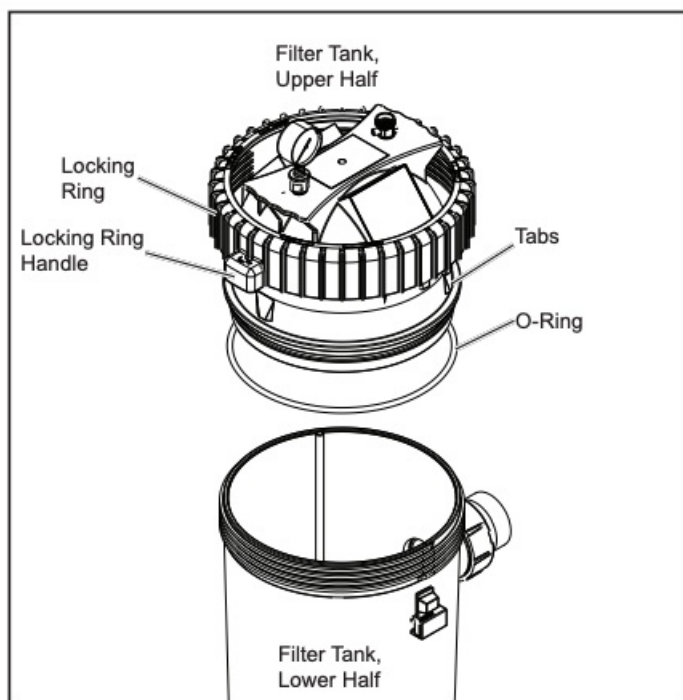

Figure 4. Locking Ring
1. Be certain the o-ring is in position in the upper tank half. Press the filter lid over the lower half until seated. Lubricating the o-ring with a silicone based lubricant will help with installation. See Fig. 4.